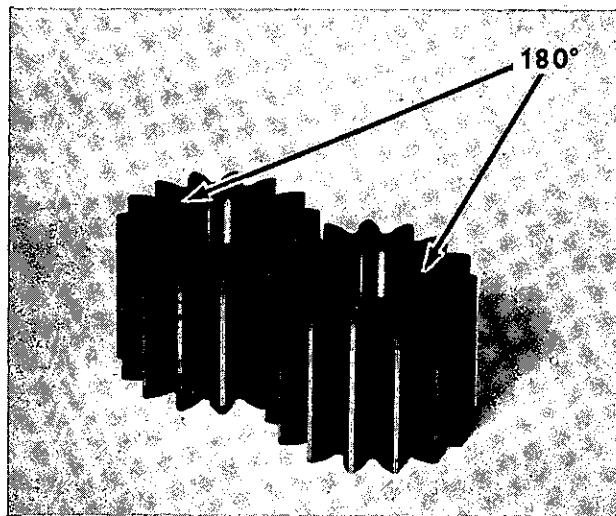

Figure 17
12. Slide gears over shafts, aligning keyway with key. NOTE: If original gears are used, line up marks previously made on gear faces. If new gears are used, keep keyways 180° apart. (See Figure 17). Lubricate face of gears with light oil.